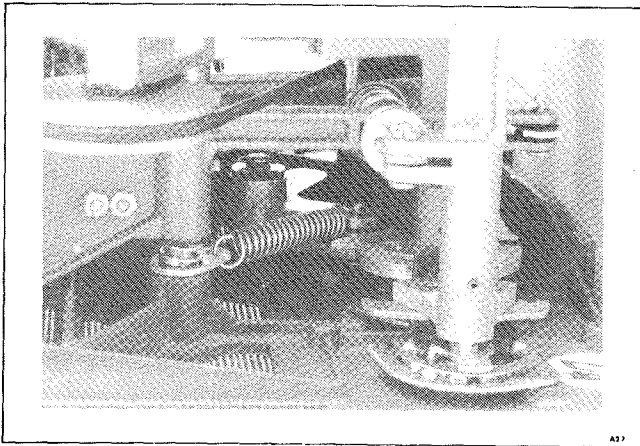

Figure 4-4. Capstan Idler Pressure Spring
4.33 Since there is no adjustment for idler pressure, the pressure spring (see Figure 4-4) must be replaced to correct the pressure.